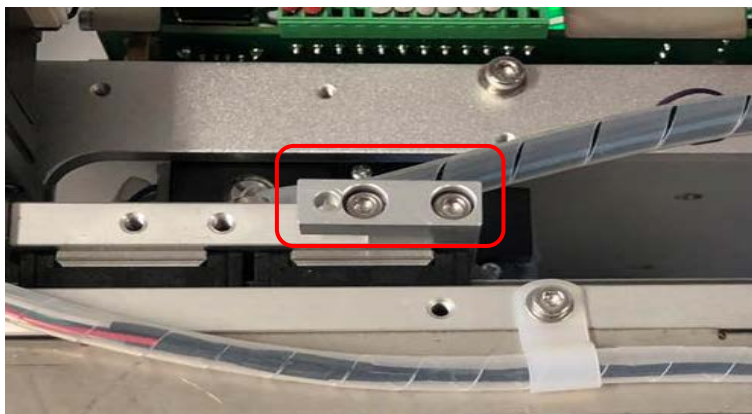
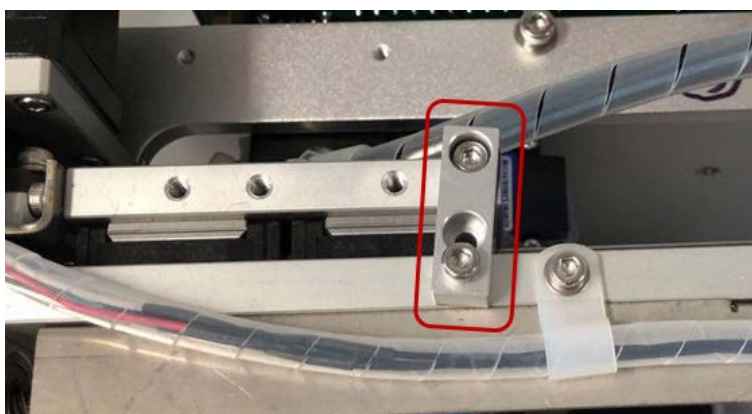

Figure 27 The fixing block
Figure 28 The fixing block fixed on the vertical plate
- As shown in Figure 27, after unscrewing the fixing block screws with a M3 hexagonal wrench, fix the block on the top of the 7vertical plate, as shown in Figure 28.